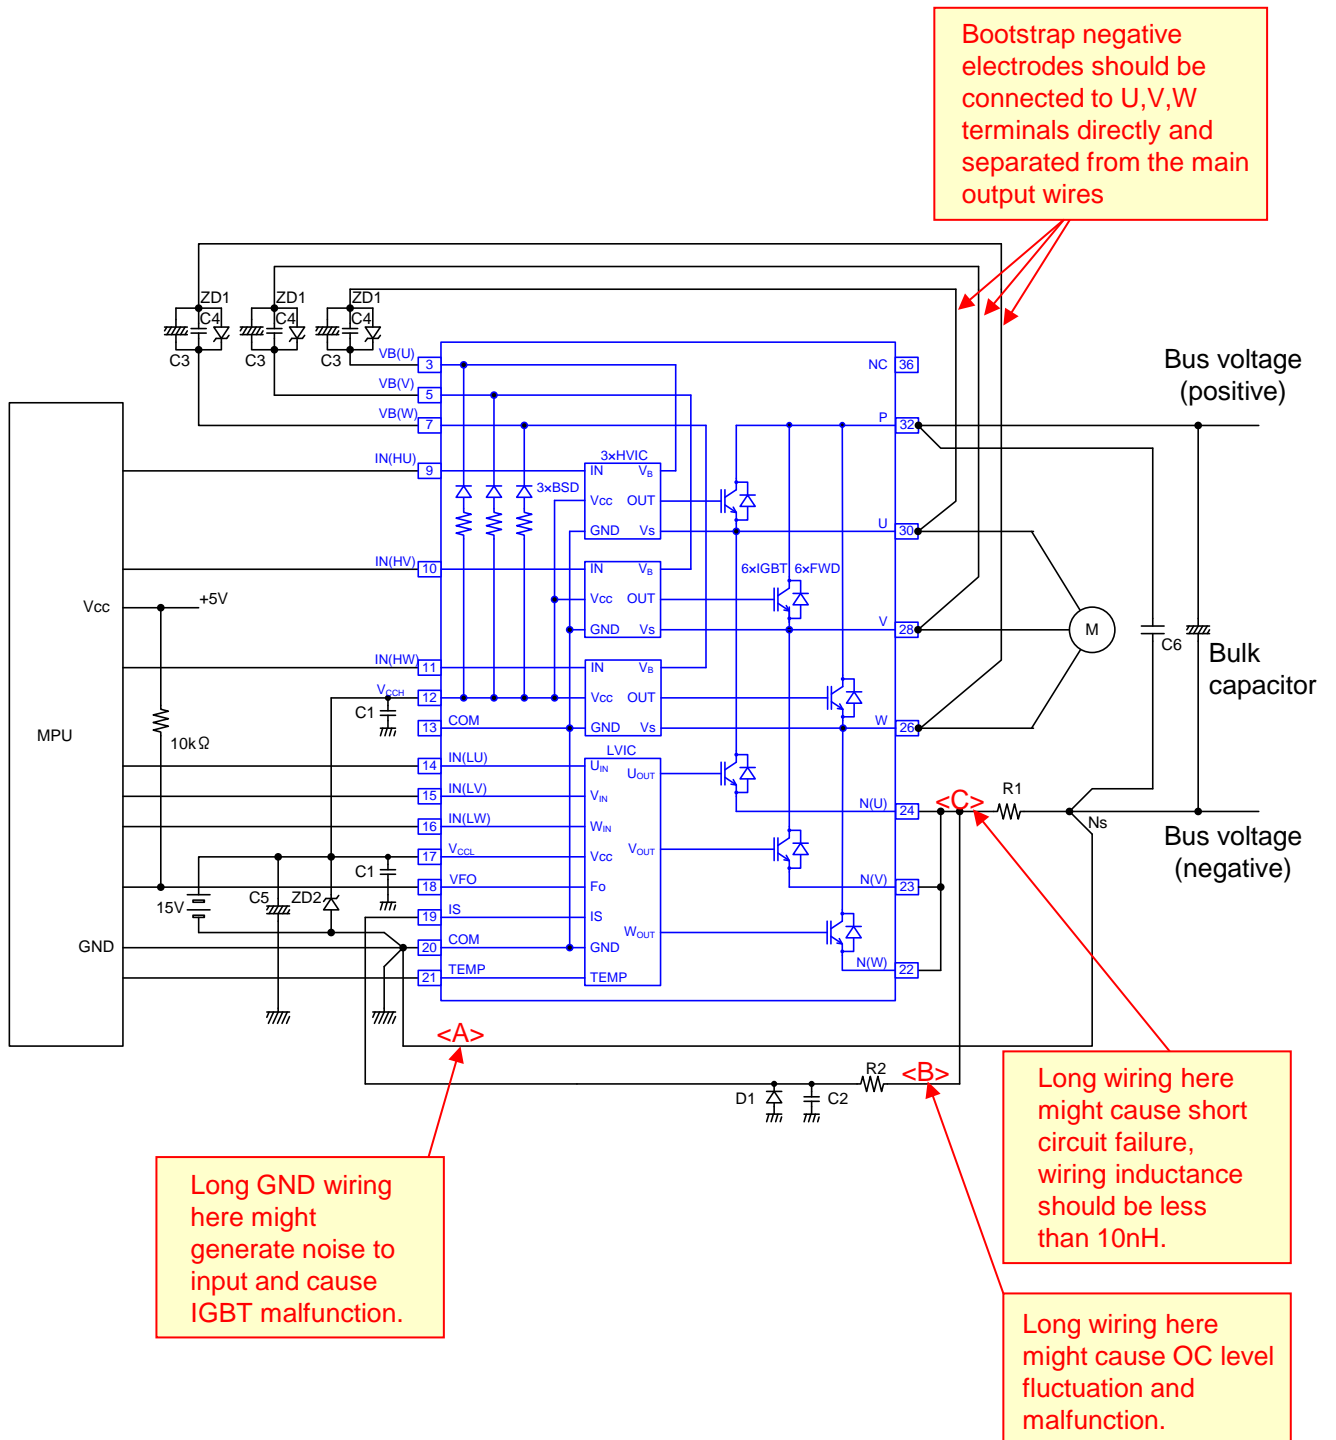
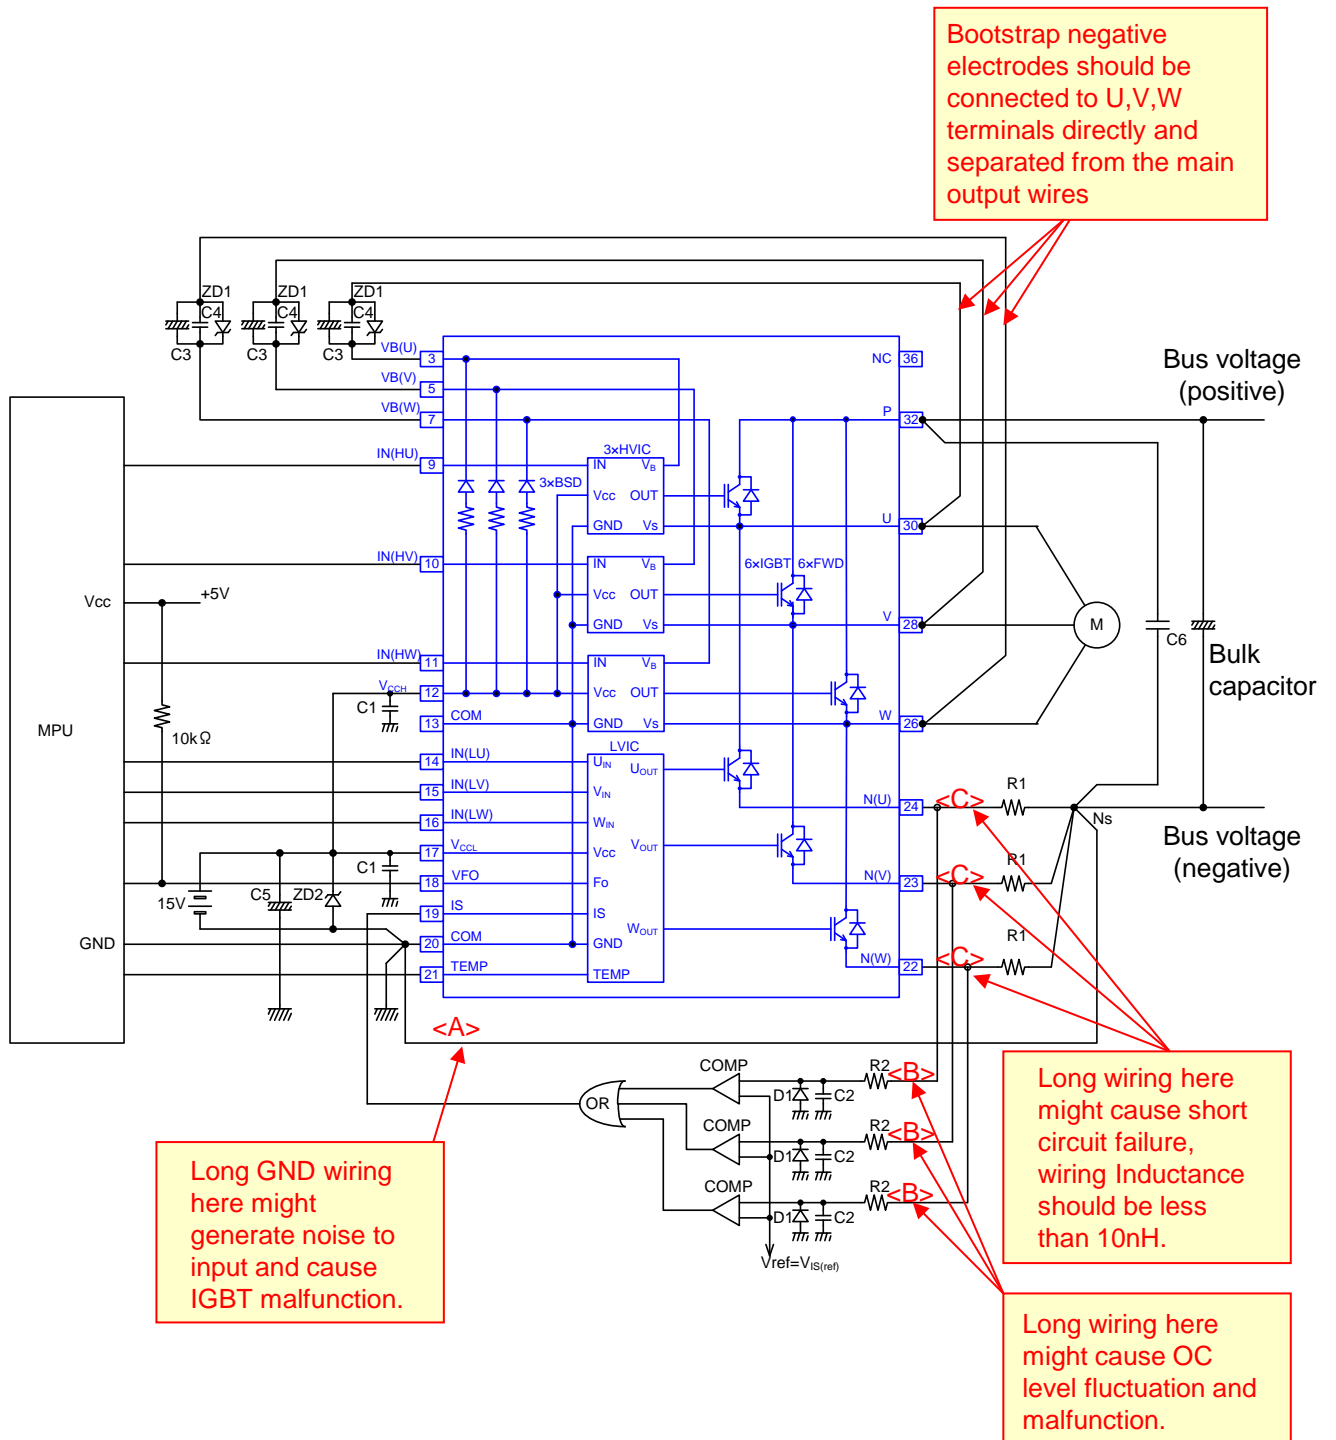
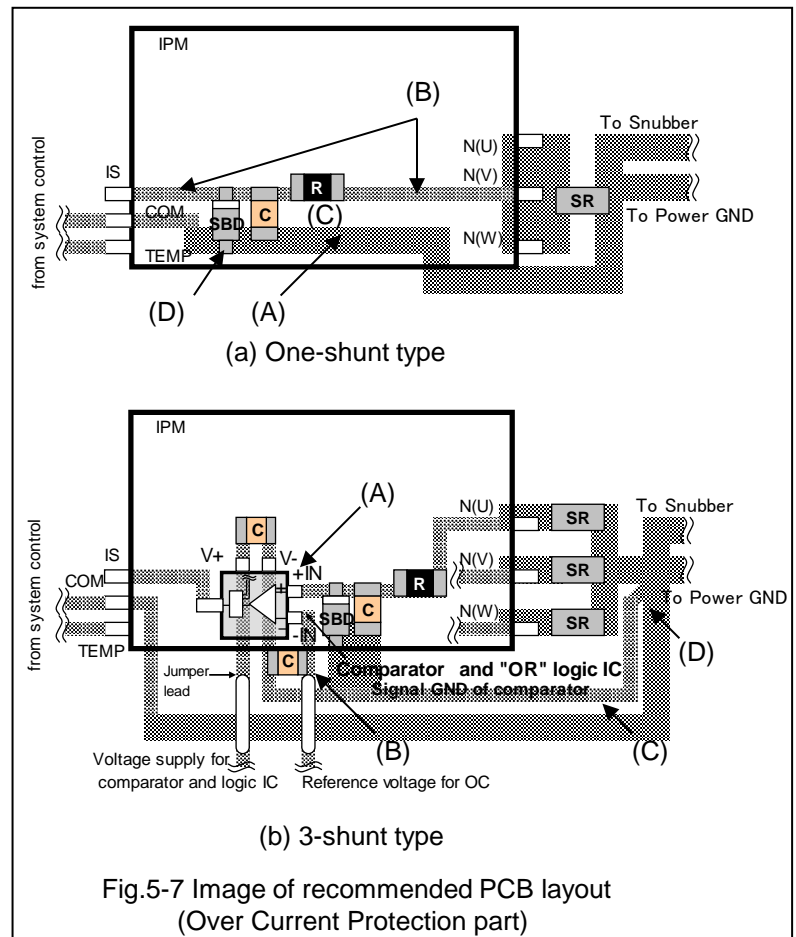

Fig. 5-1 Example of application circuit
Fig. 5-2 Another example of application circuit
Fig.5-7 Image of recommended PCB layout
Fig. 5-1 and Fig.5-2 show examples of application circuit, and its Notes.
In this section, the recommended pattern layout and precautions in PCB design are described. Fig.5-3 to Fig.5-7 show the image of recommended PCB layout, referring Fig.5-1 and Fig.5-2. In these Fig., the input signals from system control are represented with "IN(HU)".
Like Fig.5-1 and Fig. 5-2, to detect and protect the OC condition, 2 methods of current-sense are shown by example. One is "One-shunt type" (Fig.5-7 (a)) and the other is "3-shunt type" (Fig.5-7 (b)).
In Fig.5-7 (a)
In Fig.5-7 (b)
- (A) Please use high speed type comparator and logic IC to detect OC condition quickly.
- (B) The reference voltage level of OC which is inputted to the comparator should be coupled by capacitor to signal GND. And it should be as close to comparator as possible.
- (C) The pattern of signal GND for COM terminal and the pattern of signal GND for the comparator should be separated each other.
- (D) The pattern of signal GND from COM and the pattern of signal GND of the comparator should be connected together at one point ground. The one point ground should be as close to the negative pole of the shunt resistors.
- (E) The other precautions and recommendations are same as Fig.5-7 (a).